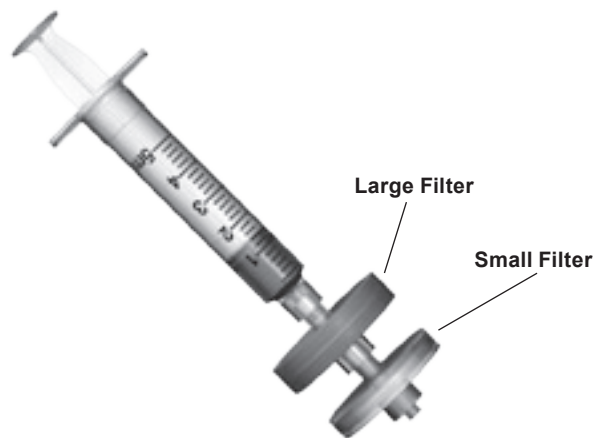
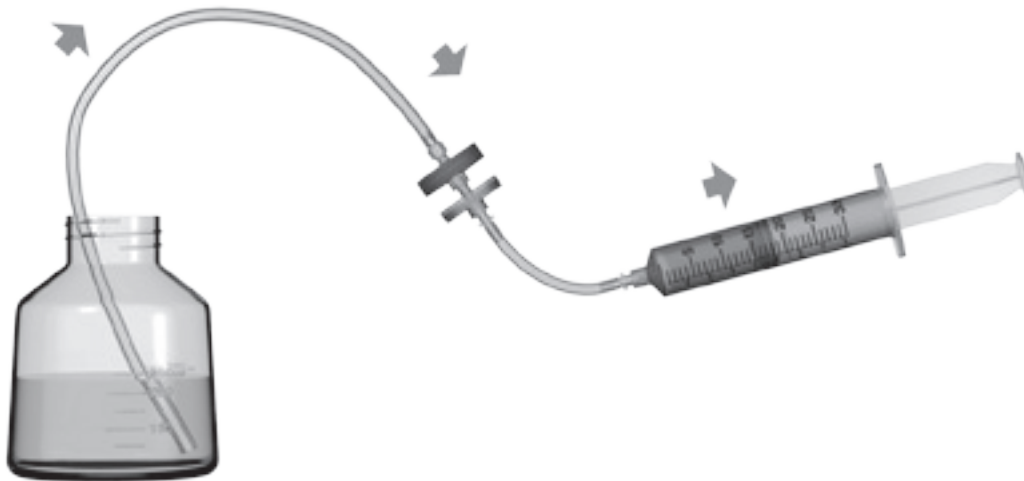

Figure 2
Figure 3
- a. Attach the **Purification Filter Assembly** to a 3-5 ml syringe filled with sterile PBS (user provided) per **Figure 2**. Wet the interior of the **Purification Filter Assembly** by passing 3-5 ml of sterile PBS through the filters. Detach the syringe and prepare to attach the tubing assembly to the **Purification Filter Assembly**, and a 20-60 ml syringe per **Figure 3**.